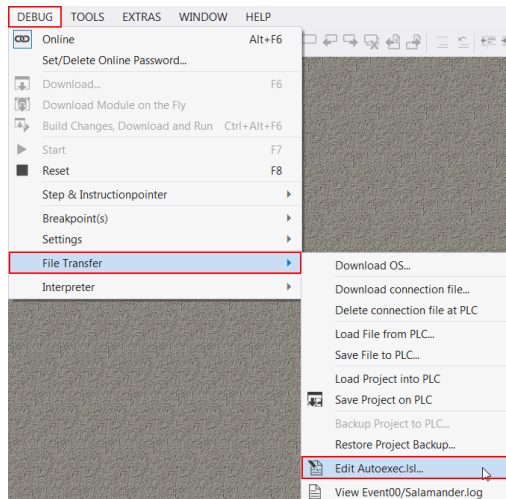

Figure 4.13 Editing the Autoexec.lsl from Class 2.
2. The IP configuration can be set via LASAL CLASS 2: "Debug → File Transfer → Edit Autoexec.lsl" as shown in Figure 4.13.